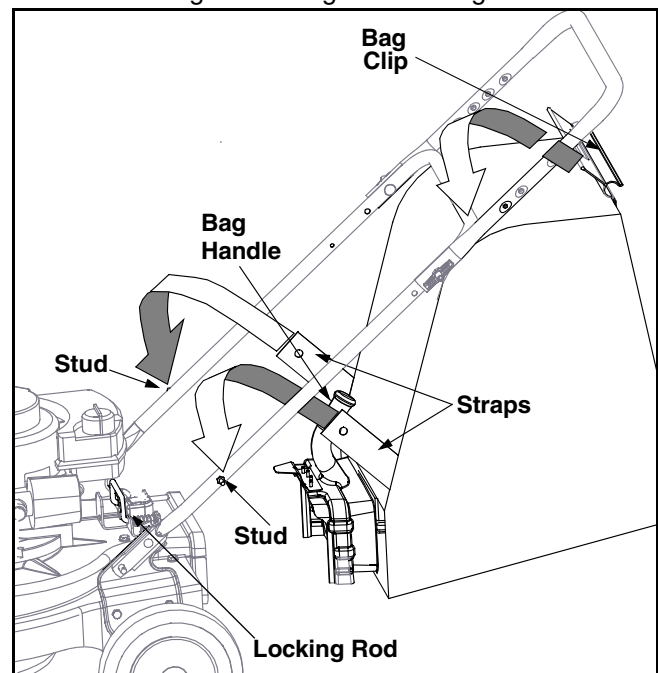

Figure 3
- Grasp bag handle with one hand and slide locking rod on the mounting bracket with other hand toward engine. Use end of mounting bracket as leverage when sliding the locking rod. See Figure 3.
- Place the bag straps **over** the lower handle, hooking them on the studs. See Figure 3.
- Snap bag clip to the top of the lower handle. See Figure 3.
- Remove bag from rim of the discharge opening. Refer to Figure 3.